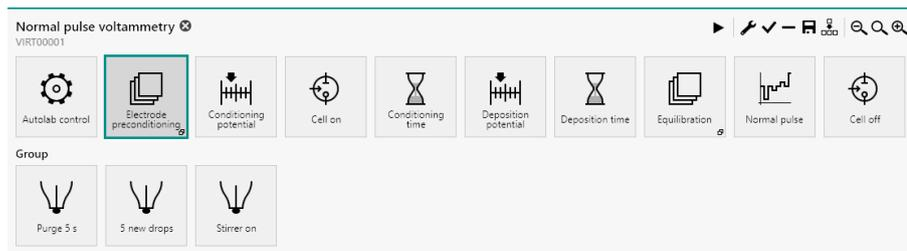

Figure 633 The Electrode preconditioning group
- **Electrode preconditioning:** this command group is used to create new mercury drops at the beginning of the procedure. The commands in this group are used to purge the solution for the specified duration, create the specified number of new drops and switch the stirrer on (see figure 633, page 536).